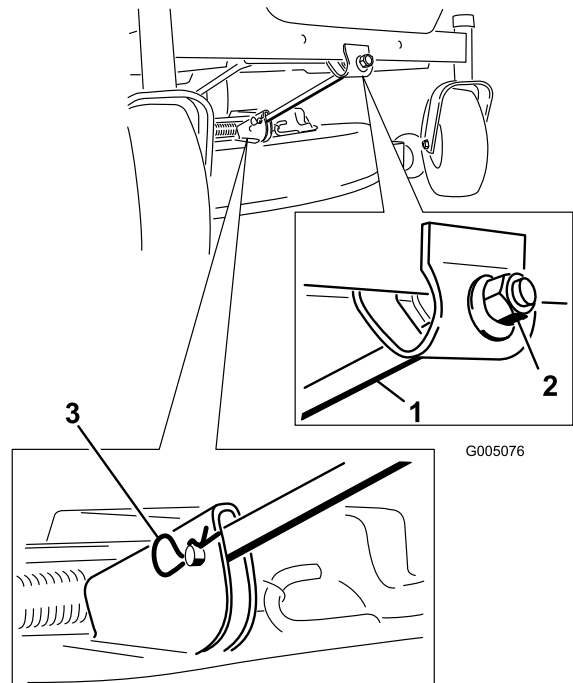

Figure 45
- Remove the hairpin cotter and clevis pin from the front support rod (Figure 45). Carefully lower the front of the mower deck to the ground.
- 6. Attach the front support rod to the mower deck with the clevis pin and hairpin cotter (Figure 45).